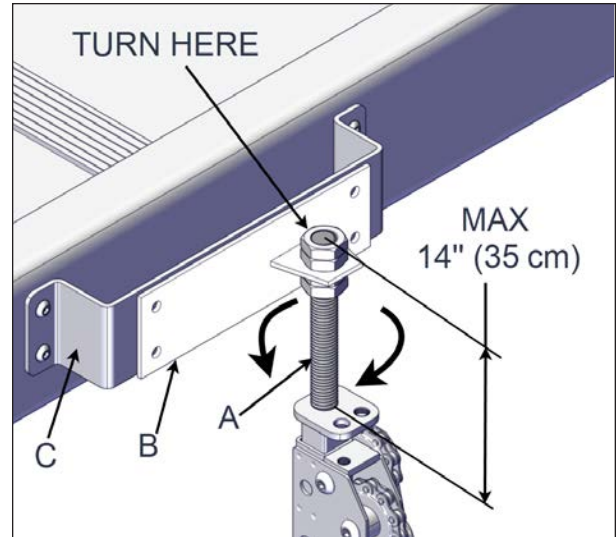

FIGURE 83: THREADED ROD ADJUSTMENT
14. The jack adapter located at the top of the jack can be adjusted by turning the threaded rod on the top of the jack. Adjust the height so that they match the cover mount bracket holes. Use the adjustable wrench 15/16" (24 mm) head. Repeat this step for all four jacks (Figure 83).
The threaded rod must not be unscrewed more than 14 inches (35 cm). (Measure the length from the top of the threaded rod nut to the top of the bottom nut see Figure 83).